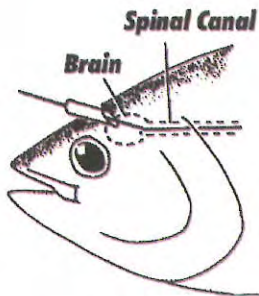

Figure 4. Insert the metal tube through the brain, followed by the rod into the spinal canal to destroy the spinal core.
- Step 2** Force the rod through the tube, into the brain, and down the hollow core of the spinal cord. (Figure 4.)